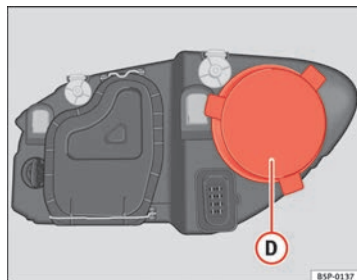

Fig. 191 Side light
- Remove the cover ⇒ Fig. 191 **D** by pulling on this.